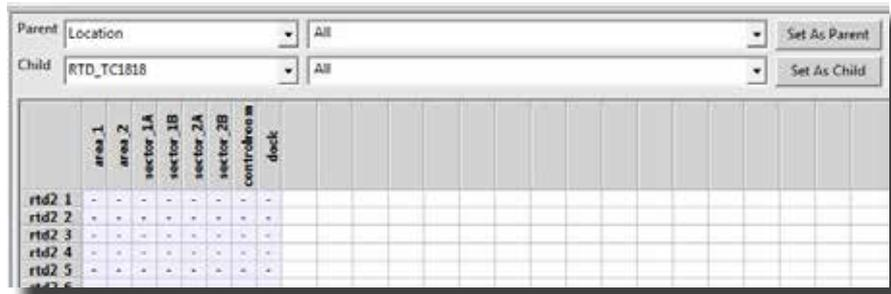

Figure 42: Plant Editor - Set Parents and Children
- a. From the tree view select the item(s) and click “Set Selected As Parent” or “Set Selected As Child” (Figure 41). The column labels are the parents and the row labels are the children (Figure 42).
- b. From the dropdown lists select the types for parent (child). A list of available objects will appear in the dropdown list in next to the type dropdown list. Select the object and click the “Set As Parent (Child)” button (Figure 42).